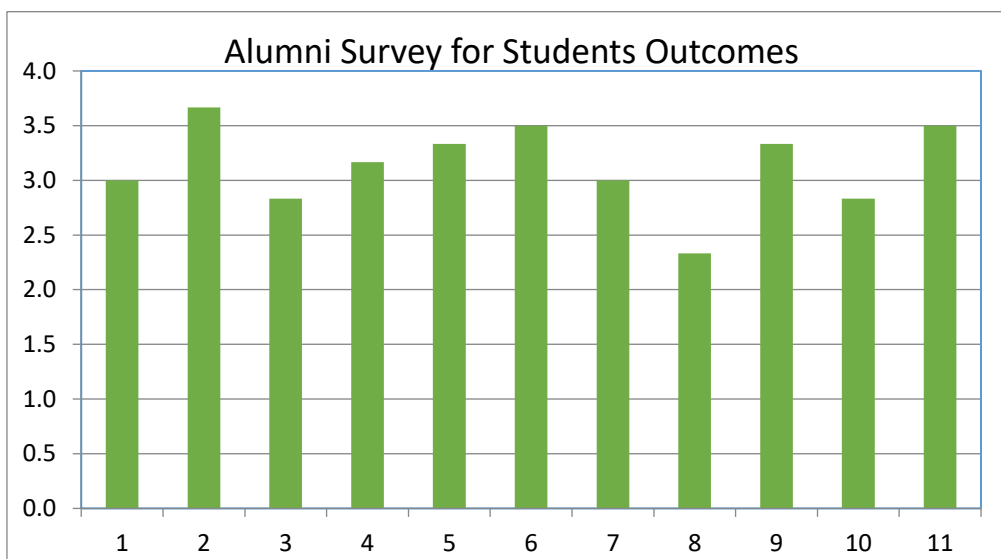
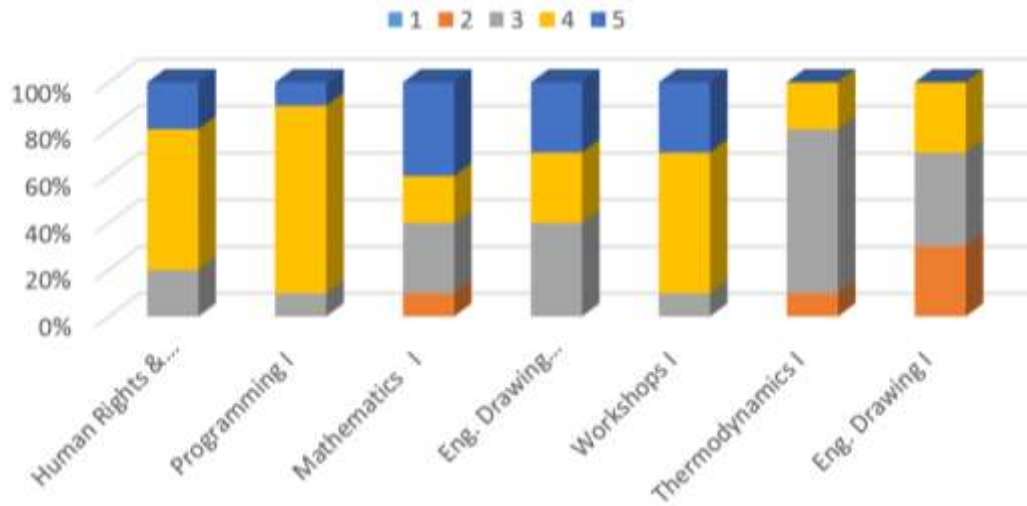
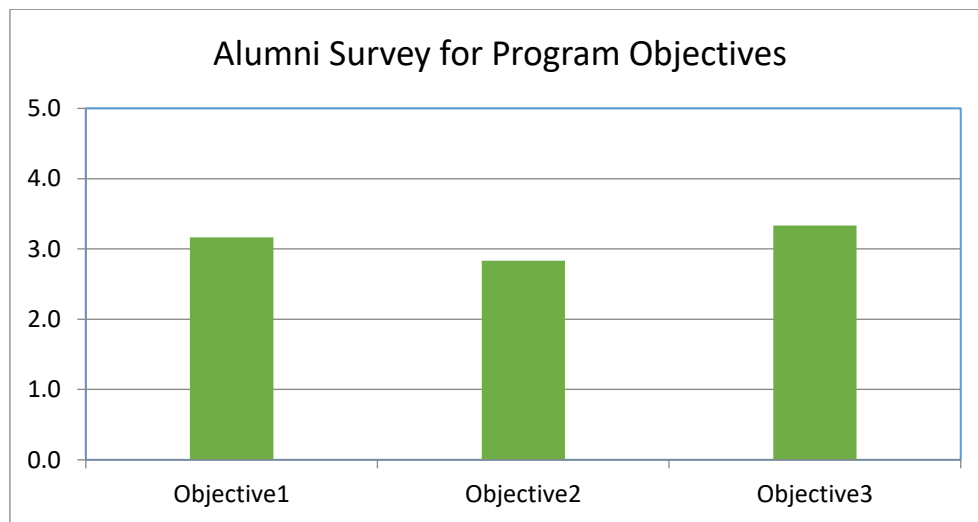

Figure 4.3: Alumni Outcomes Survey
Figure 4.4: Student survey for the given courses (First Year)
Figure 4.8: Alumni questionnaire for our program PEOs.
- 2- Similar survey was taken for the program alumni (Alumni Outcomes Survey), the survey was taken for a sample selected alumni, also, of our educational program. This includes a survey of A-K outcomes, Figure 4.3. Student survey for the given courses for the first, second, third, and fourth year classes are shown in Figures 4.4 through 4.7. PEOs Questionnaire as shown in Figure 4.8.